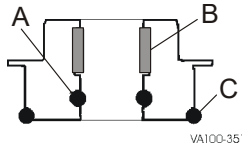

Figure 24 - Standard Top Adapter
2. Remove and replace the O-ring(s) (Figure 24, item A) inside the adapter. For the flush/steam barrier adapters, see Figure 5 on page 14 and Figure 8 on page 15, respectively.
3. Check the split bearing (Figure 24, item B) inside the adapter by feeling the amount protruding from the adapter wall. If the bearing is flush with the wall, replace the bearing.
2. Slide or cut the outer O-ring (Figure 24, item C) off the adapter. Do not nick or scratch the O-ring groove.